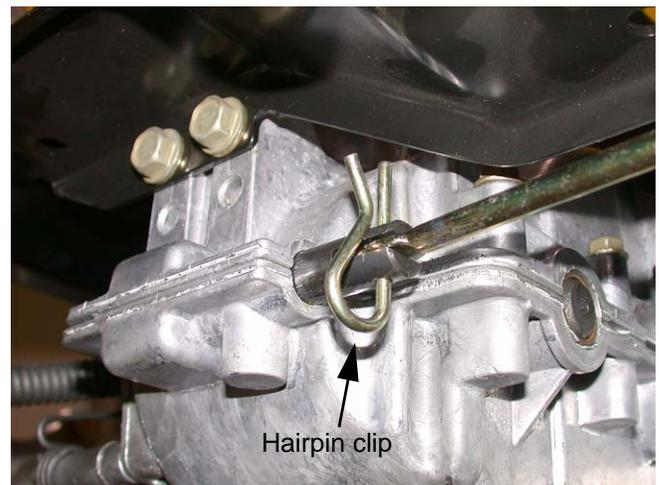

Figure 21.9
21.9. Remove the hairpin clip securing the transmission shift rod to the transmission. See Figure 21.9.
21.10. Using a 1/2" socket, remove the two hex screws securing the front of the transmission housing to the transmission support bracket. See Figure 21.9.